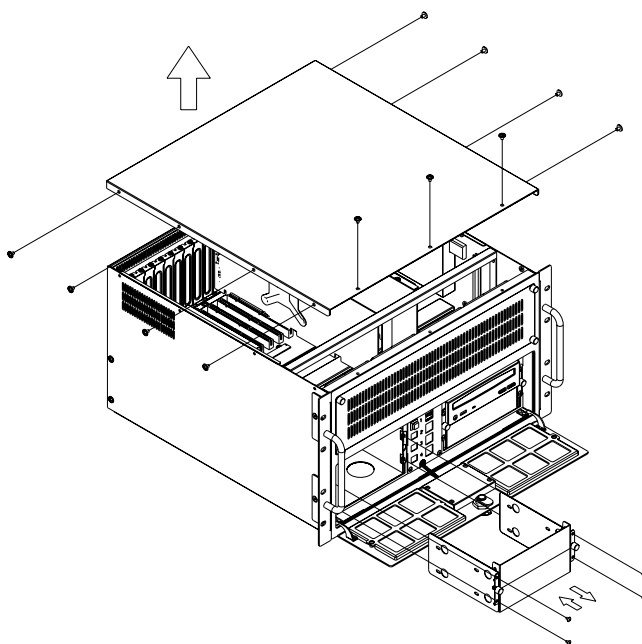

Figure 2.5 Taking out the disk drive housing
1. Unscrew the four screws on the front of the disk drive shield. Hold the two thumb screws to take out the disk drive housing. (Figure 2.5)